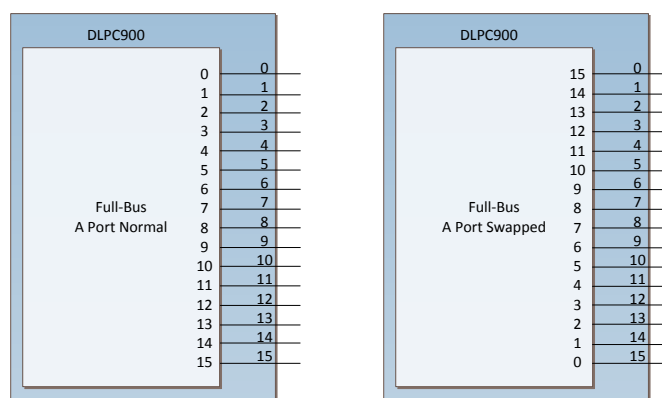

Figure 18. Controller to DMD Full-Bus Connections
- (4) The DLPC900 is a Full-Bus DMD signaling interface. Figure 18 shows the controller connections for this configuration.
- (5) The pulse duration minimum for any clock rate can be calculated using the following formulas.
Figure 18 shows the controller connections for full-bus normal or swapped. Refer to the *DLPC900 Programmer's Guide* (DLPU018) for details on how to select the bus swap settings to match the board layout connections.